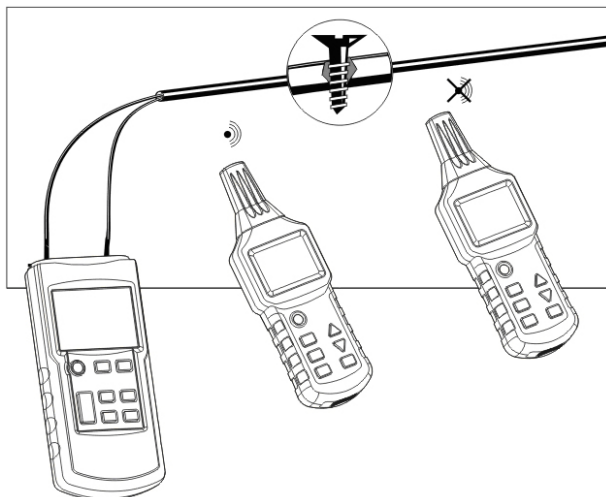

Fig.20
- Connect the transmitter as shown in figure 20.